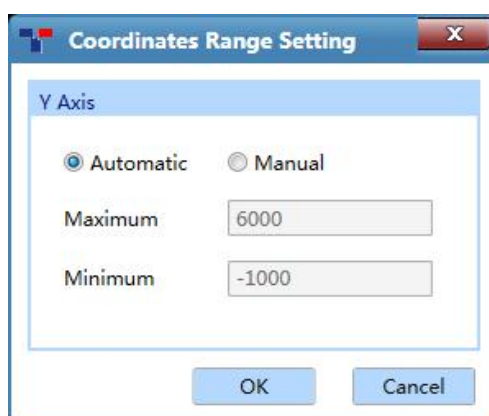

Figure D- 9.1a Abs Quant analysis interface - Coordinate Range Setting
- <  **Y-axis Coordinate Adjustment** >: users can adjust the Y-axis coordinate of the amplification curves diagram. Please click <  **Y-axis Coordinate Adjustment** > icon and the coordinate range setting box will pop up automatically, as shown in figure D-9.1a. Users can select **Automatic** or **Manual** option in the coordinate range setting box to set the Y-axis coordinate. If the **Automatic** option is selected, the application software will automatically adjust the Y-axis coordinate according to the detected fluorescence value; if the **Manual** option is selected, users can manually enter or use  and  keys to set the maximum and minimum value of Y-axis coordinate range in the **Maximum** and **Minimum** input box and click < **OK** > to confirm.